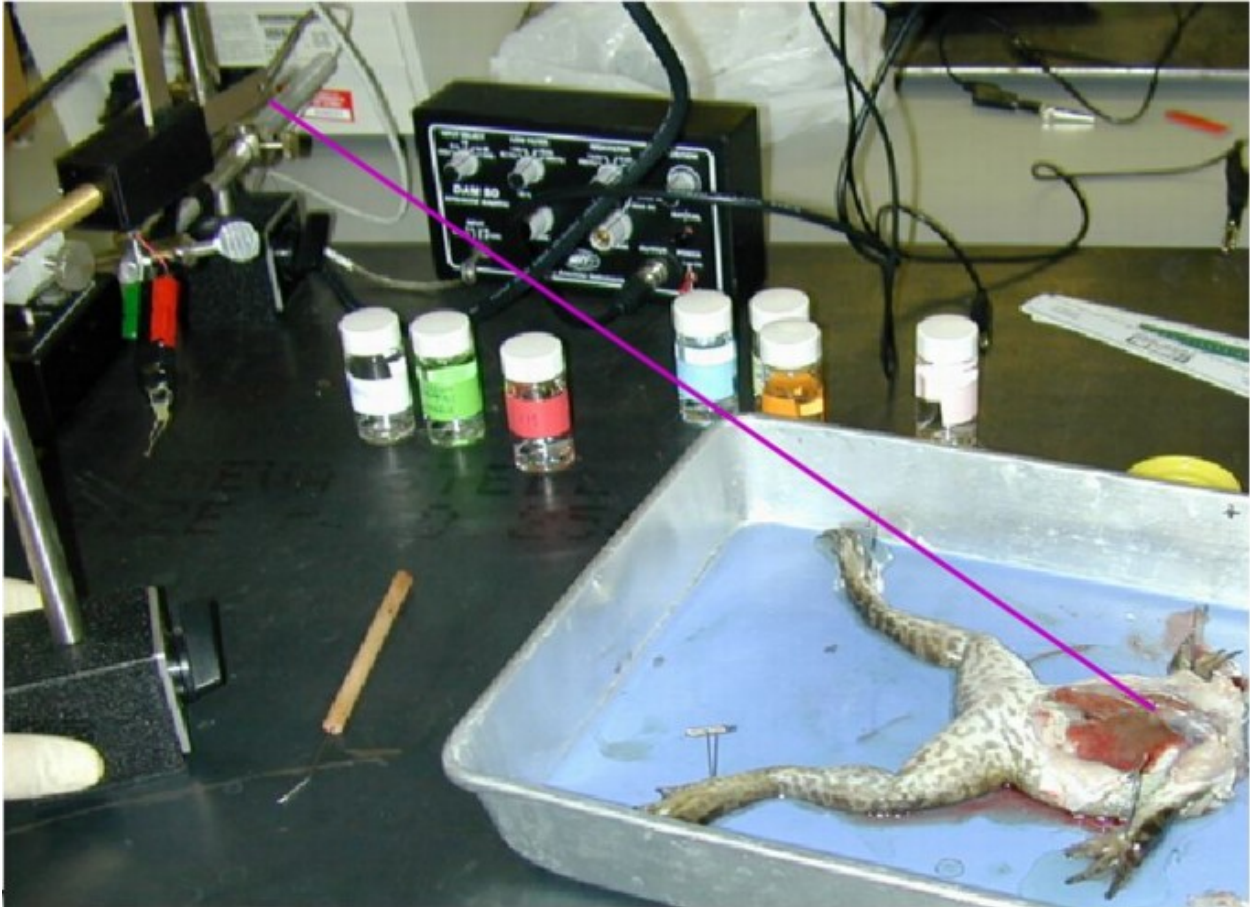

Figure 4: Photo of the complete frog preparation include the thread connecting the heart to the transducer.
5. Attaching transducer to the frog (See Figure 4):
- (c) Place the transducer at the end of the pan, elevated about 20 cm above the table surface with the blade oriented perpendicular to the table. The thread from the frog heart to the transducer should be quite flat (horizontal) so that you apply tension to the long axis of the heart. See Figure 4 for reference.